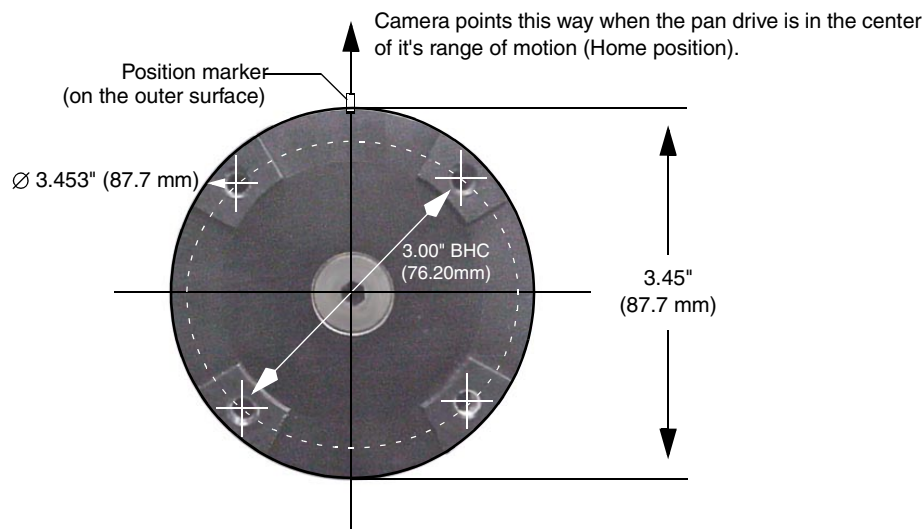

FIG. 4 Mounting-plate dimensions
3. Mount the PosiTrack unit to a flat surface by drilling four holes, according to the mounting-plate dimensions shown in FIG. 4. Secure the unit to the surface using four 1/4" x 20 machine